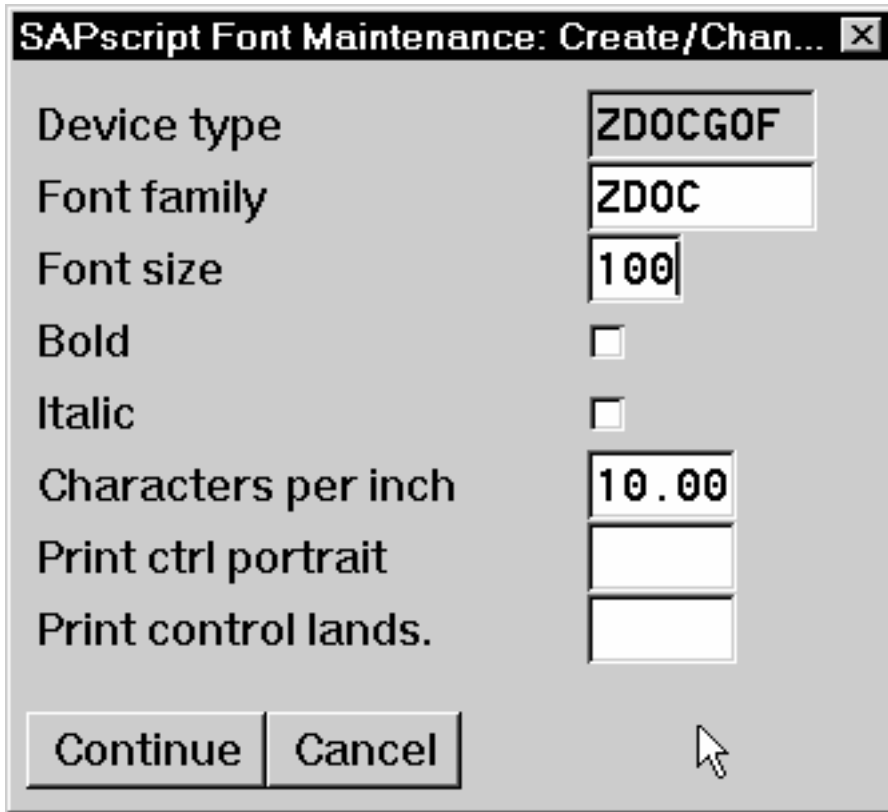

Figure 14. SAPScript Font Maintenance (Create/Change) window for OTF Fonts
11. From the Create/Change... window shown in Figure 14 on page 110, select the intended device type (ZD0C0GF) and fill in the remaining information: